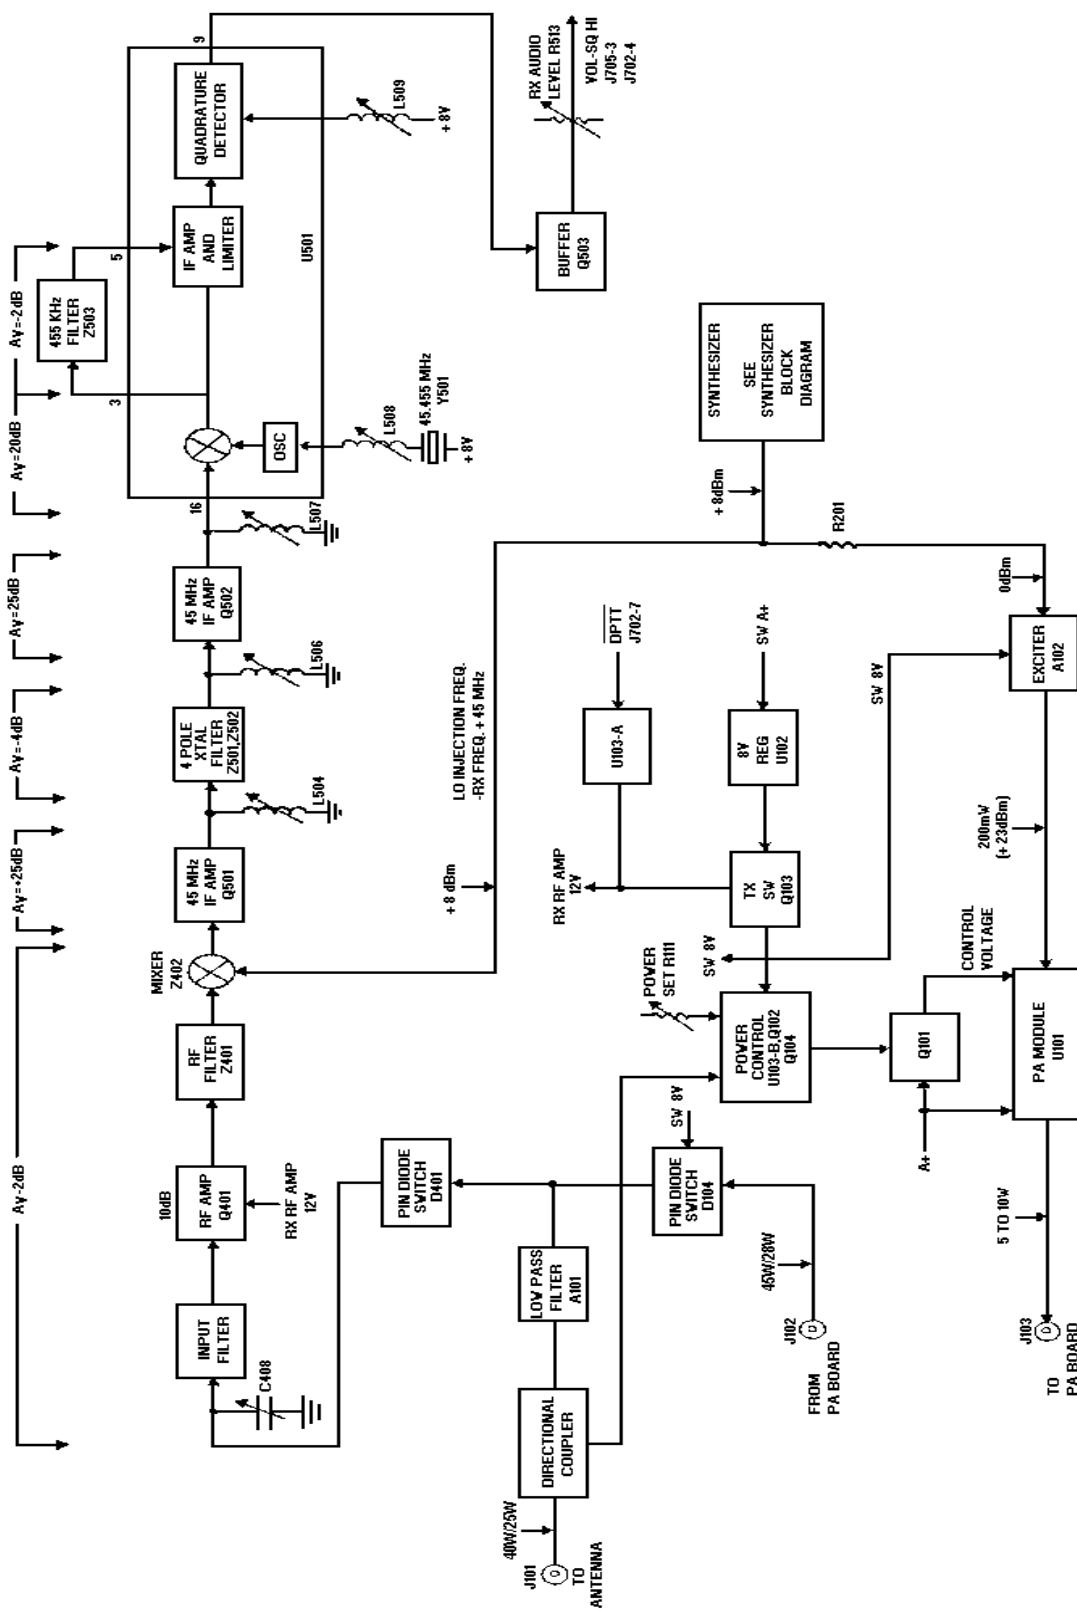
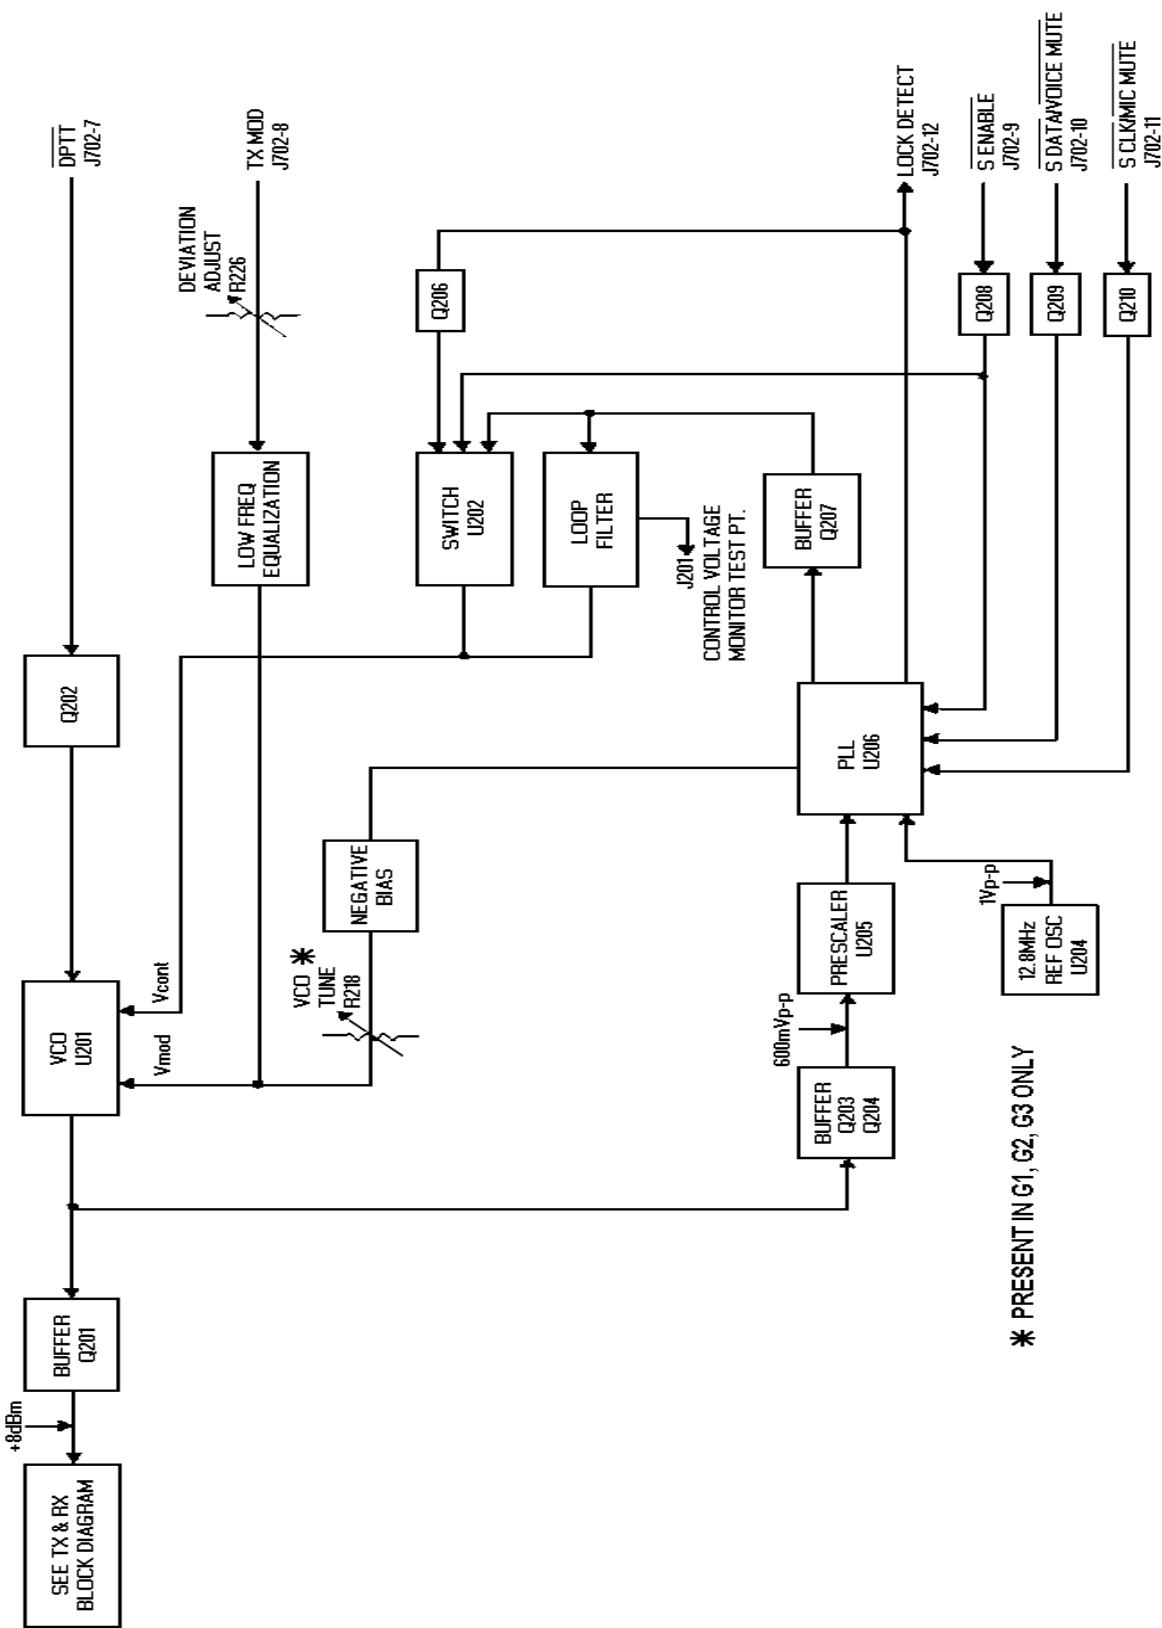

Figure 1 - TX And RX Block Diagram
Figure 2 - Frequency Synthesizer Block Diagram
The RF Board is mounted in the bottom of the frame assembly. Refer to the Combination Manual for the mechanical layout of the radio. Figure 1 provides a block diagram of the receive and transmit circuits. Figure 2 provides a block diagram of the synthesizer.
Figure 1 shows the synthesizer driving the receive mixer at +10 dBm and is attenuated by resistor R202 to +3 dBm for driving the exciter input. Exciter module A102 operates from a switched 8 volt supply. A different exciter module is required for each of the three band splits. No tuning is required. Both input and output ports operate at 50 ohms impedance. The exciter module provides typically 20 dB of gain and 200 mW of output power to drive the power amplifier module.
Most transmit circuit problems can be isolated by checking the TX power gains shown in Figure 1- RX and TX Block Diagram. The PA Board may be bypassed by placing a jumper cable between J103 and J102 on the RF Board. The PA module U101 is capable of producing 10 watt output
• Poor SINAD	<ol style="list-style-type: none"> 1. Consult Figure 1 - RX and TX Block Diagram for RX stage gains and troubleshoot. NOTE: Use a high impedance RF probe when measuring gain at TP401. A 50-ohm probe may be used if C415 is removed. DO NOT adjust Z401 or Z402 without sweep equipment or the 20 MHz sensitivity bandwidth will be sharply reduced. 2. Input cable. 3. PIN Diode switch is shorted.